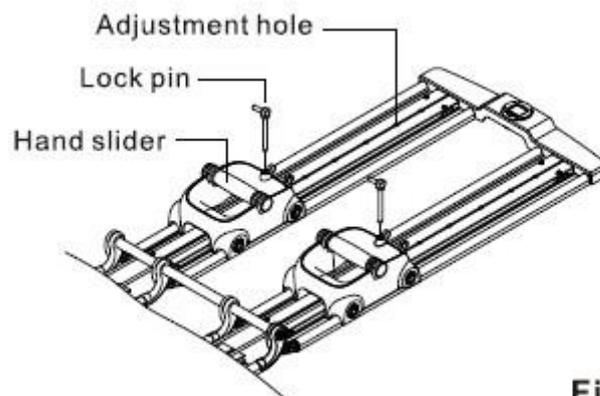

Fig. 10
- A. Pull out the lock pins installed inside of each end of the rotational axis for workouts 1 and 2, and lock the leg sliders into the suitable track holes according to needs. (see Fig.10)